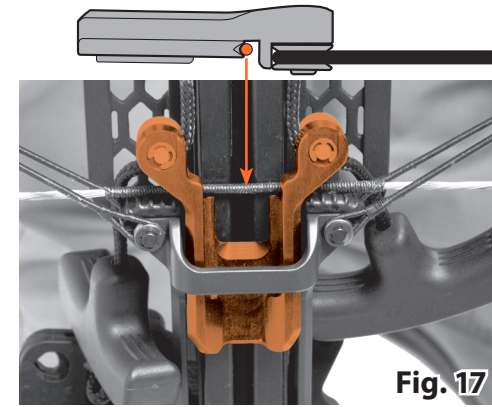

Fig. 17
3. The CP400 cocking sled has two string grooves that must be fully engaged on the bow string at all times during the cocking process (See Fig. 17). The string grooves on the cocking sled allow the string to be drawn in an even, torque free manner allowing the CP400 crossbow to be smoothly cocked.